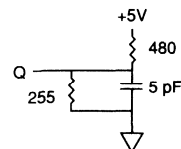

Fig. 2 OUTPUT LOAD EQUIVALENT
6. t_{HZCE} and t_{HZWE} are specified with CL = 5pF as in Fig. 2. Transition is measured ±500mV from steady state voltage.